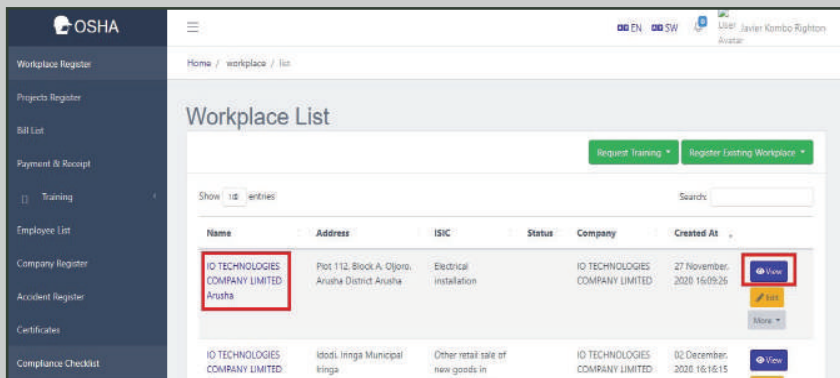

Figure 20: Viewing workplace details
- i) Click on the view button or workplace name on the displayed workplace list as Shown on Figure 20.